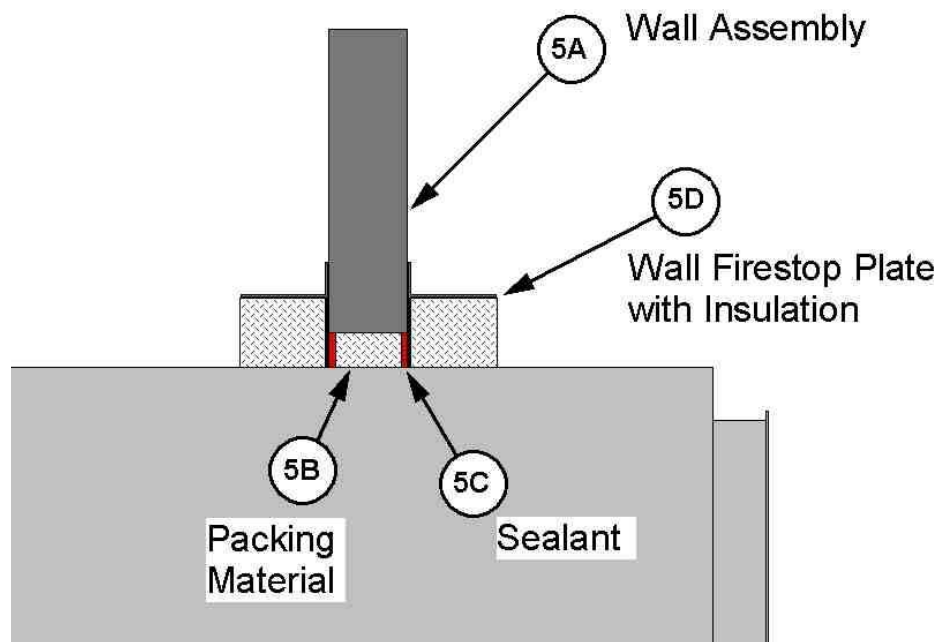

Figure 7. Wall Firestop
5. WALL PENETRATION FIRESTOP: When required to penetrate a fire-rated wall assembly, install the firestop system described in Items 5A to 5D (reference Figure 7).